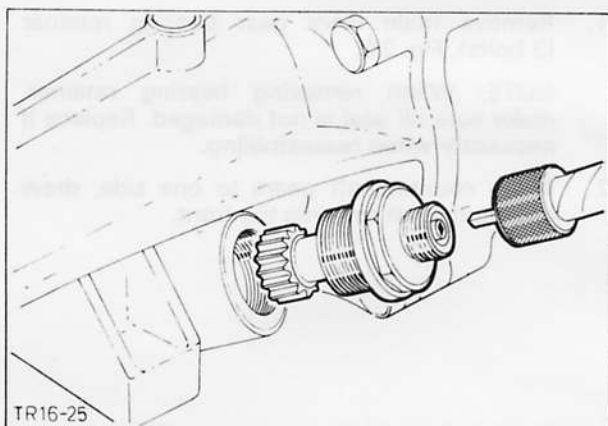

Fig. 29. Remove speedometer drive unit
16. Unscrew speedometer drive unit complete from gearbox extension housing. Then remove drive gear bearing, Fig. 29.